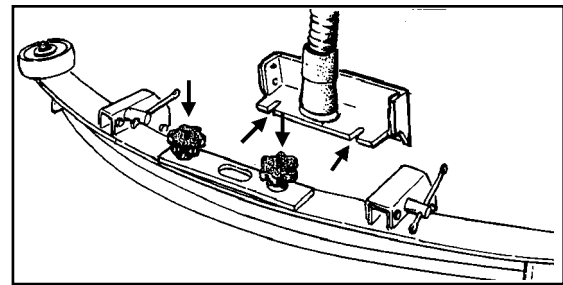

Figure 8
1. The squeegee assembly has a break away feature that is also used for mounting the squeegee. Loosen the knobs on the squeegee (figure 8). Slide the stud into the slotted hole in the support frame on the machine.